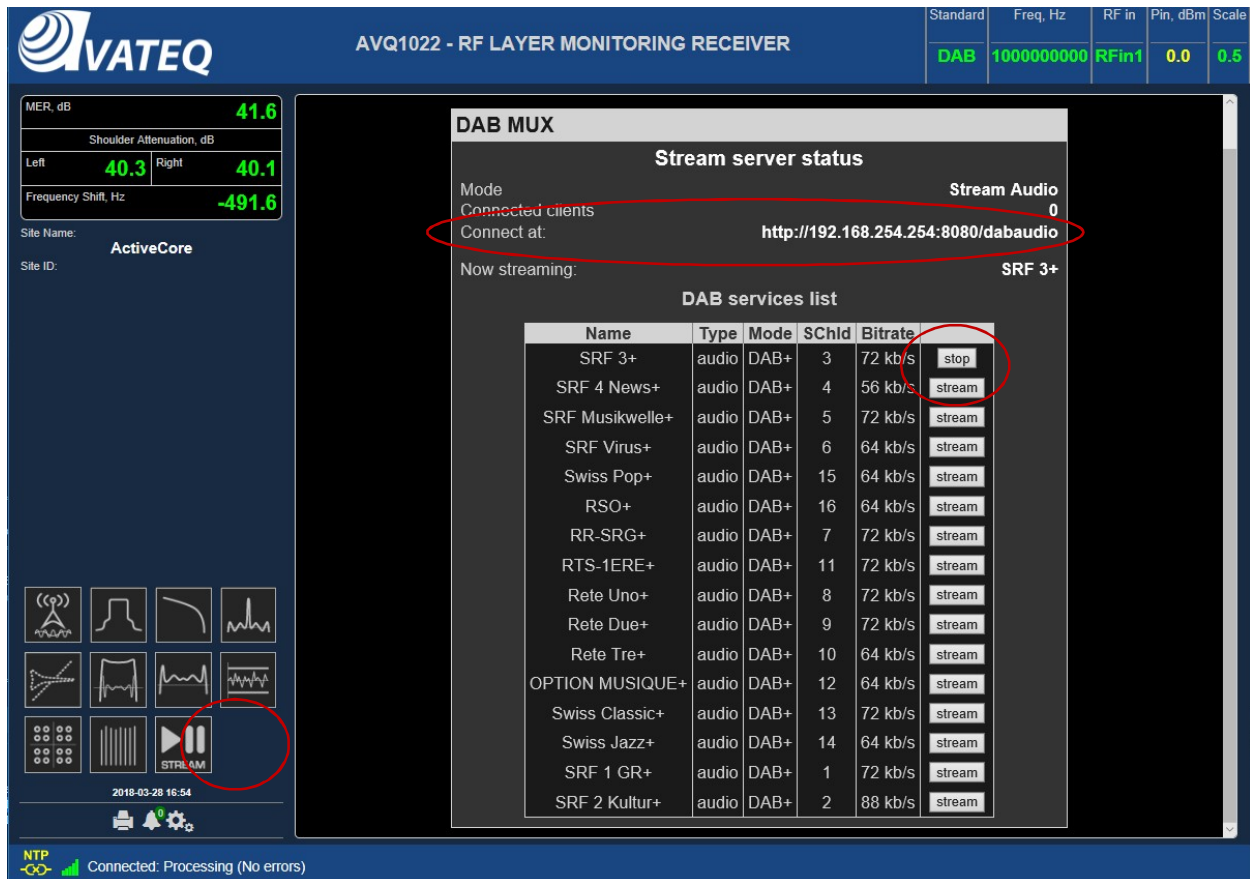

Figure 39. DAB/DAB+ MUX and Service Selection
3. Open DAB MUX page (Figure 39) by clicking on “Stream” icon.
For example, for a unit with IP 192.168.254.94 the required network URL is <https://192.168.254.94:8080/dabaudio>. The required URL is presented on the DAB Stream page for your convenience. Please see "Connect at" string in Figure 39.